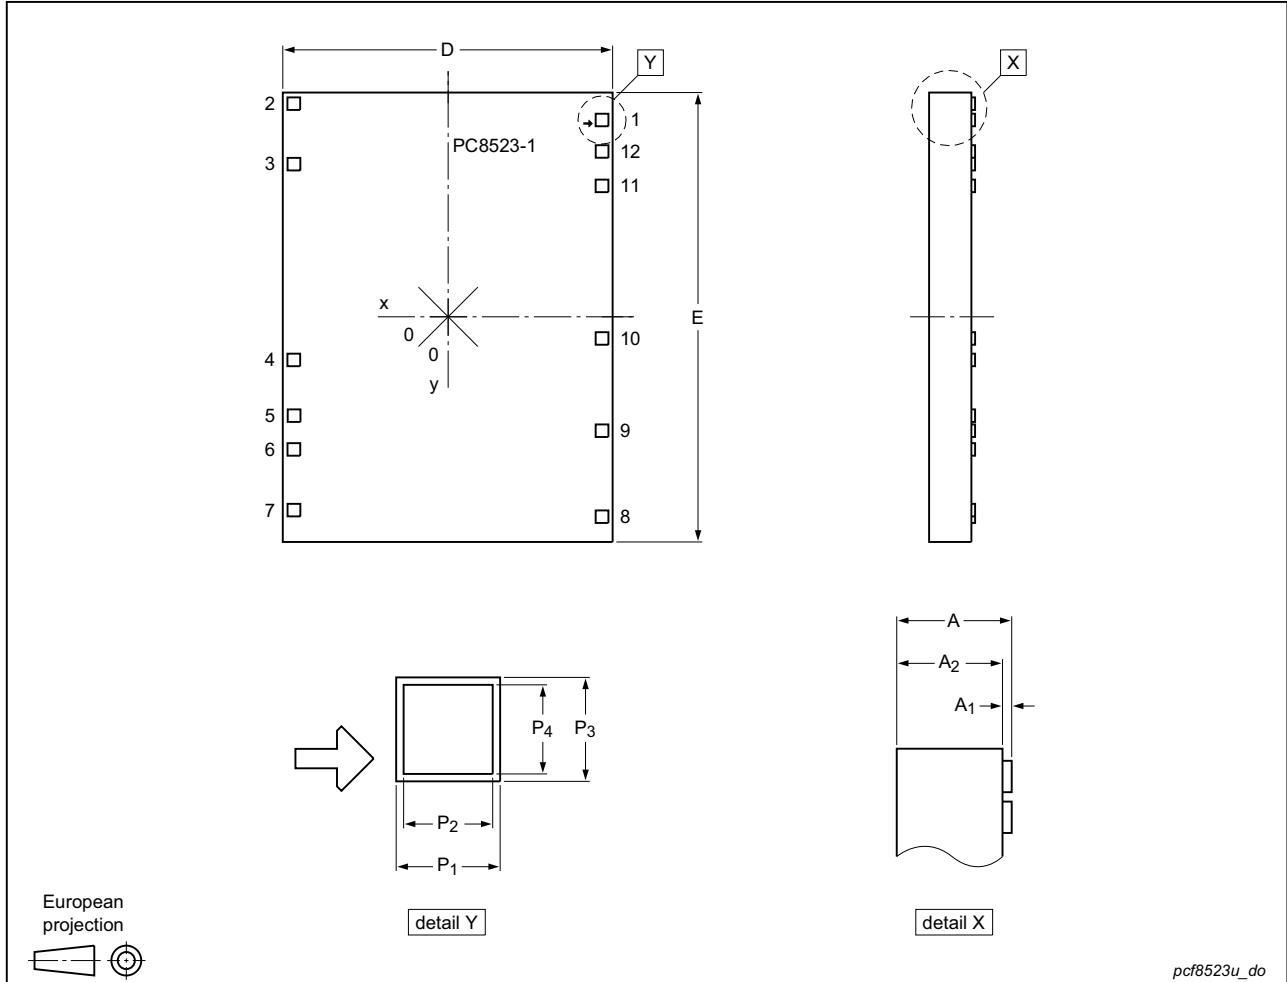
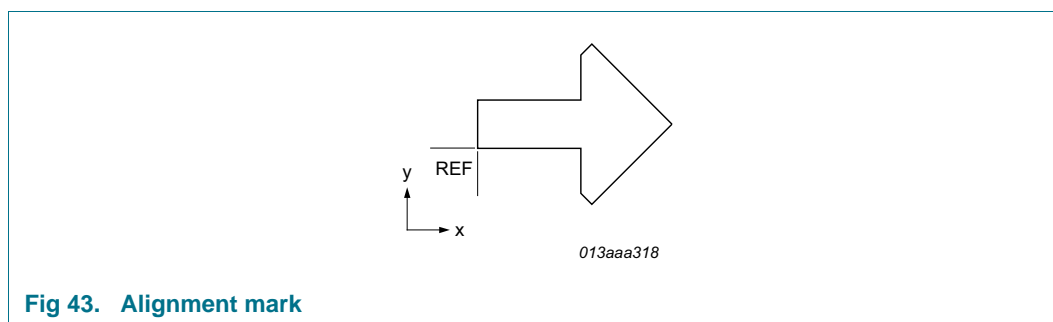

Fig 42. Bare die outline of PCF8523U
Fig 43. Alignment mark
All x/y coordinates represent the position of the center of each bump with respect to the center (x/y = 0) of the chip; see Figure 42.
- [1] The x/y coordinates of the alignment mark location represent the position of the REF point (see Figure 43) with respect to the center (x/y = 0) of the chip; see Figure 42.
- [2] The x/y values of the dimensions represent the extensions of the alignment mark in direction of the coordinate axis (see Figure 43).